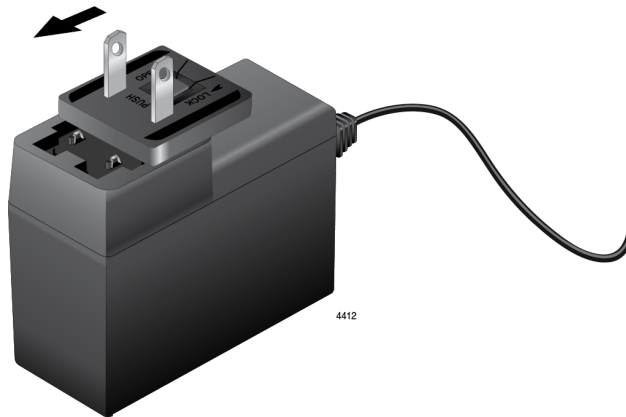

Figure 14. Installing an AC Plug on the AT-TQ0091 AC/DC Power Adapter
6. Slide the correct AC plug for your region into the slot on the adapter until it clicks into place. Refer to Figure 14.